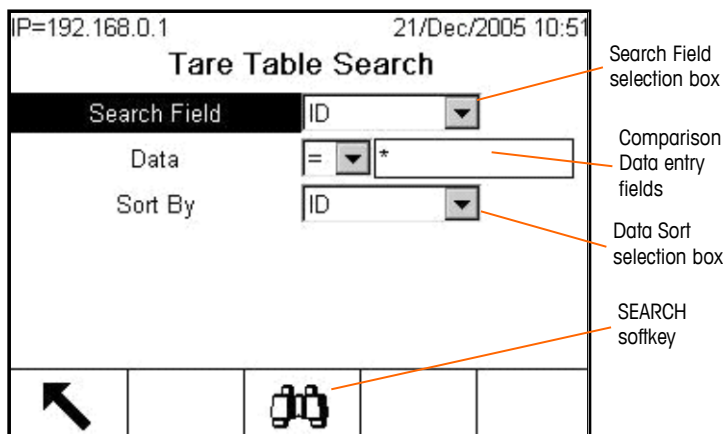

Figure 2-38: Tare Table Search Screen
3. To select a sub-set of records from the table, press the TABLE SEARCH softkey . The Search Screen for the selected report type displays (see Figure 2-38).